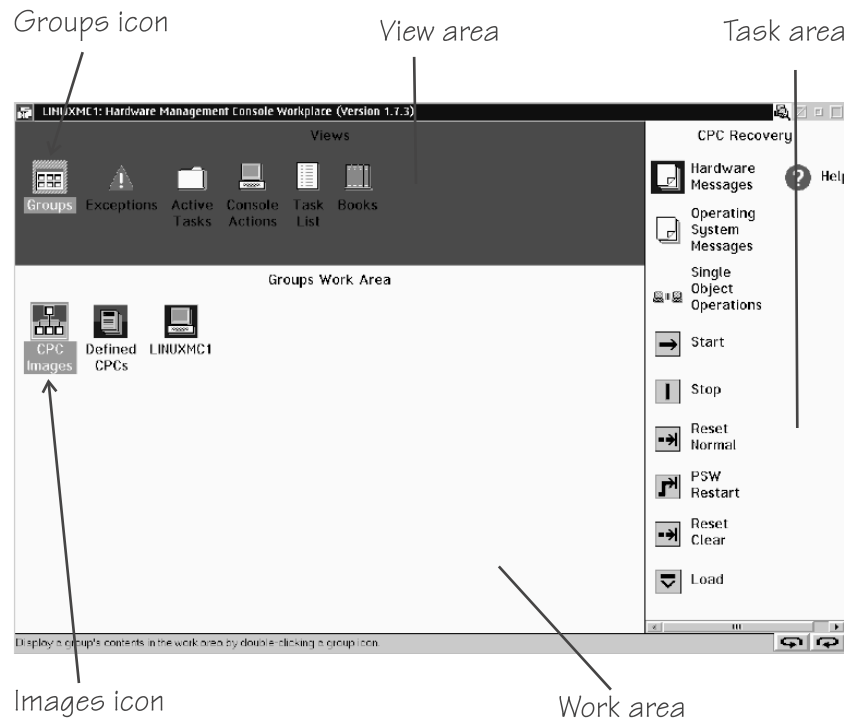

Figure 55. Groups Work Area on the HMC
1. Click the Groups icon in the “Views” area of the HMC to display the “Groups Work Area” (Figure 55 on page 287).